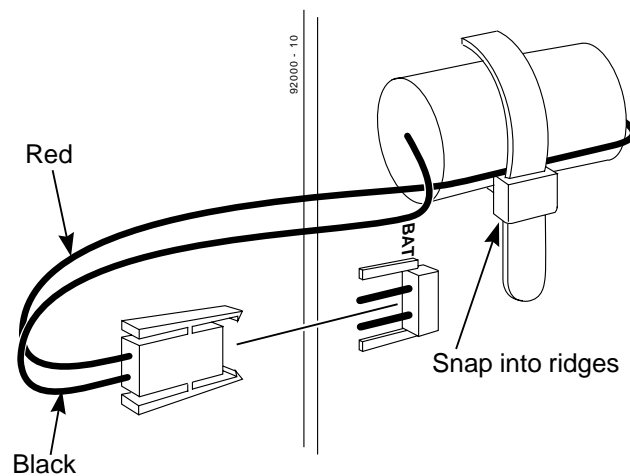

Figure 2-3 CPRU BATTERY INSTALLATION
#### CPRU Installation (Figures 2-3 through 2-7)
2. Connect the battery to the BAT connector with the red wire up (Figure 2-3).